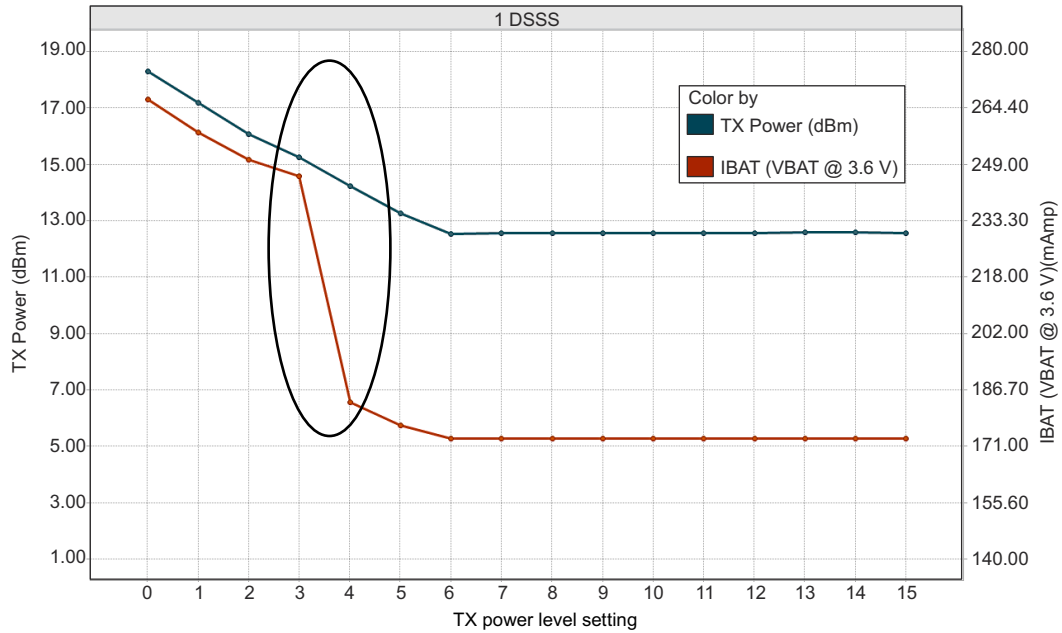
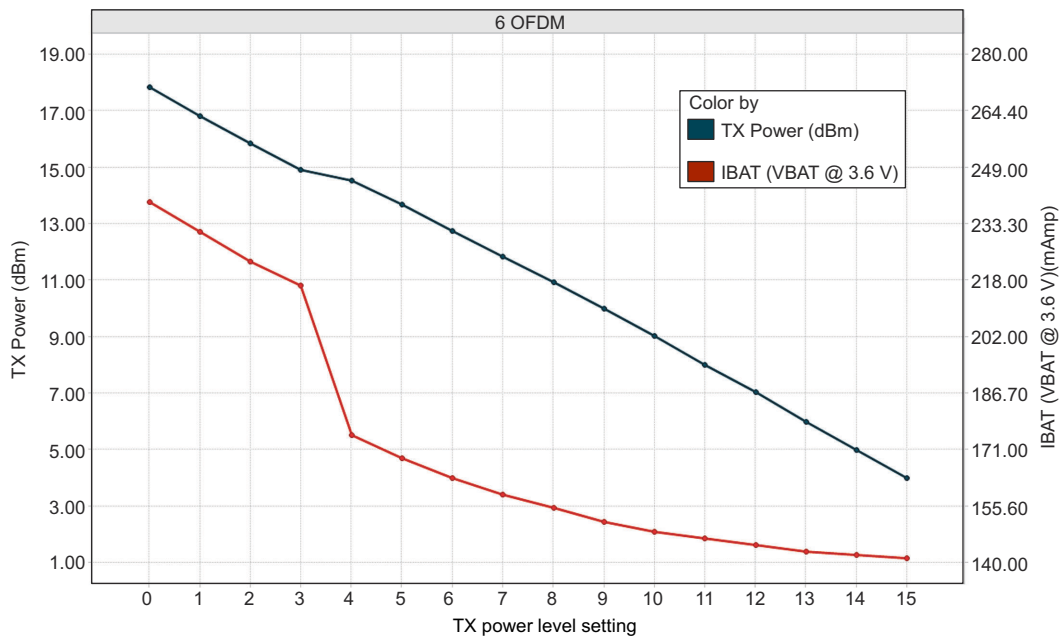
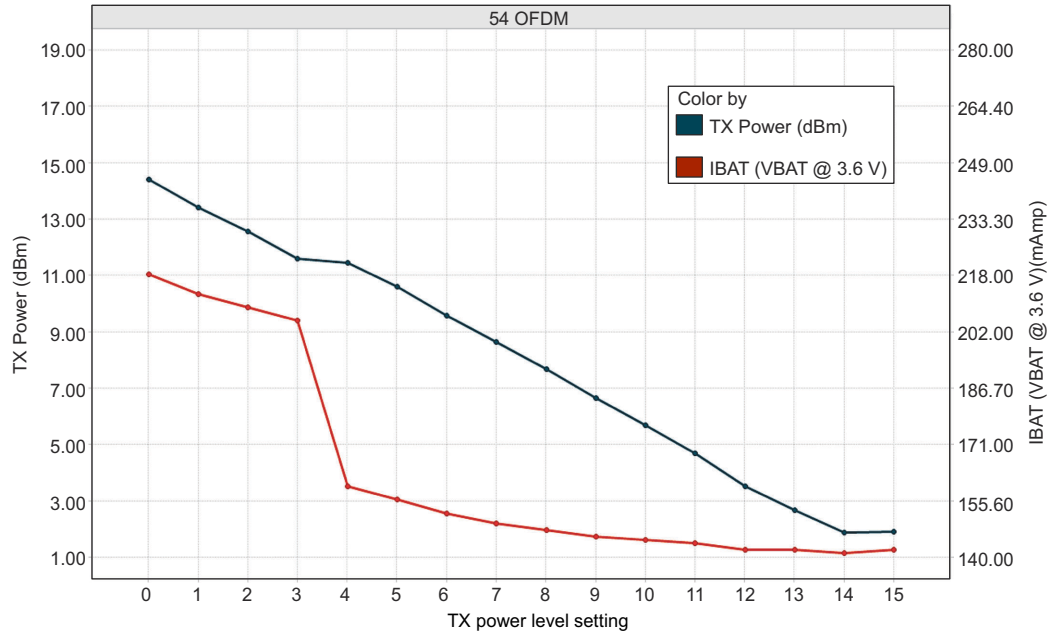

图 7-1. TX Power and IBAT vs TX Power Level Settings (1 DSSS)
图 7-2. TX Power and IBAT vs TX Power Level Settings (6 OFDM)
图 7-3. TX Power and IBAT vs TX Power Level Settings (54 OFDM)
- (1) TX power level = 0 implies maximum power (see 图 7-1, 图 7-2, and 图 7-3). TX power level = 4 implies output power backed off approximately 4 dB.
- (2) LPDS current does not include the external serial flash. The LPDS number of reported is with retention of 256KB of MCU SRAM. The CC3230x device can be configured to retain 0KB, 64KB, 128KB, 192KB, or 256KB of SRAM in LPDS. Each 64-KB block of MCU retained SRAM increases LPDS current by 4 μA.
- (3) DTIM = 1
- (4) The complete calibration can take up to 17 mJ of energy from the battery over a time of 24 ms. In default mode, calibration is performed sparingly, and typically occurs when re-enabling the NWP and when the temperature has changed by more than 20°C. There are two additional calibration modes that may be used to reduced or completely eliminate the calibration event. For further details, see *CC31xx, CC32xx SimpleLink™ Wi-Fi® and IoT Network Processor Programmer's Guide*.
- (5) The CC3230x system is a constant power-source system. The active current numbers scale based on the V_{BAT} voltage supplied.
- (6) Typical numbers assume a VSWR of 1.5:1.
- (1) TX power level = 0 implies maximum power (see 图 7-1, 图 7-2, and 图 7-3). TX power level = 4 implies output power backed off approximately 4dB.
- (2) LPDS current does not include the external serial flash. The LPDS number of reported is with a retention of 256KB of MCU SRAM. The CC3230x device can be configured to retain 0KB, 64KB, 128KB, 192KB, or 256KB of SRAM in LPDS. Each 64-KB block of MCU retained SRAM increases LPDS current by 4µA.
- (4) The complete calibration can take up to 17 mJ of energy from the battery over a period of 24 ms. Calibration is performed sparingly, typically when coming out of HIBERNATE and only if the temperature has changed by more than 20°C. The calibration event can be controlled by a configuration file in the serial flash.
- (5) Typical numbers assume a VSWR of 1.5:1.
图 7-1, 图 7-2, and 图 7-3 show TX power and IBAT versus TX power level settings for the CC3230S device at modulations of 1 DSSS, 6 OFDM, and 54 OFDM, respectively. For the CC3230SF device, the IBAT current has an increase of approximately 10mA to 15mA depending on the transmitted rate. The TX power level will remain the same.
In 图 7-1, the area enclosed in the circle represents a significant reduction in current during the transition from TX power level 3 to level 4. In the case of lower range requirements (14dBm output power), TI recommends using TX power level 4 to reduce the current.